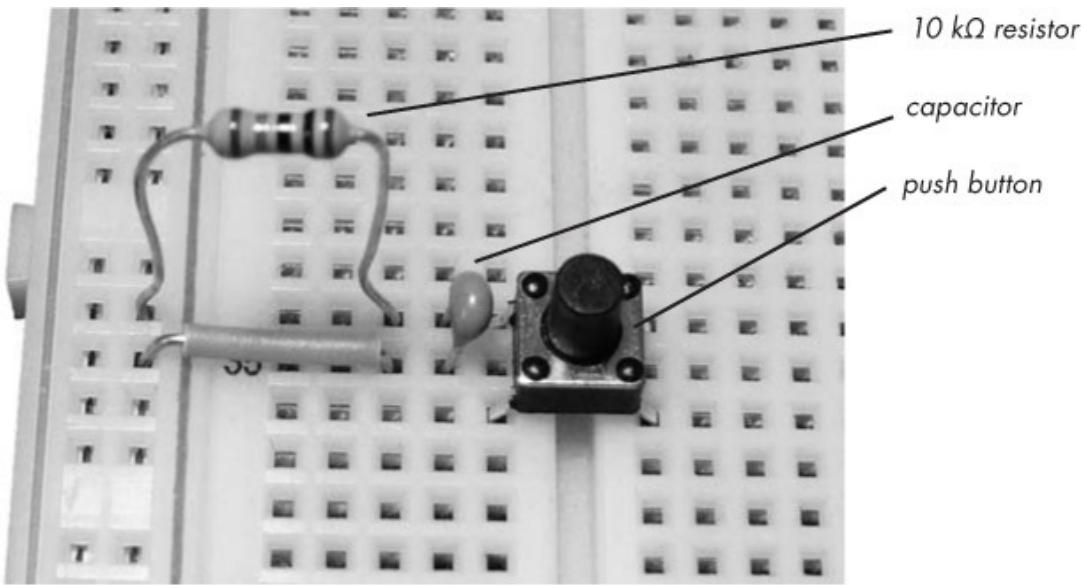

Figure 4-21. 10 $k\Omega$ resistor, capacitor, and push button
2. Turn the breadboard 90 degrees counterclockwise and insert the $10\text{ k}\Omega$ resistor, a short link wire, and the capacitor, as shown in Figure 4-21.